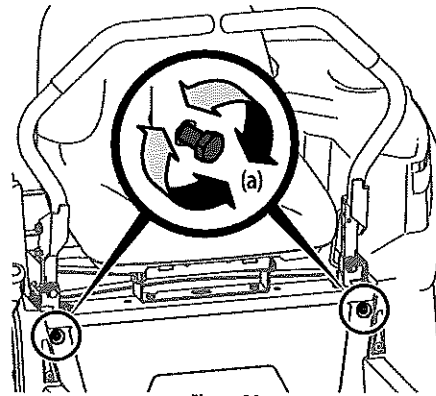

Figure 39
2. Locate the lapbar drive control lever stop adjustment bolts (a) on the front of the seat frame. See Figure 39.